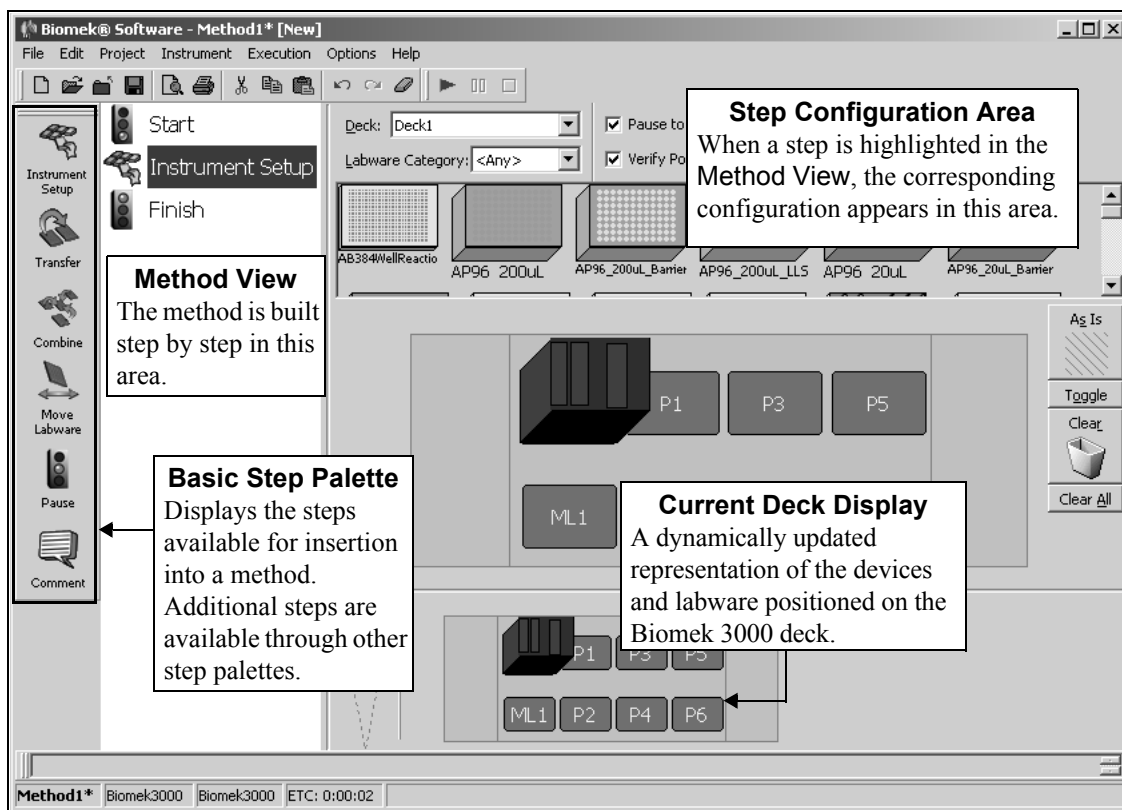

Figure 2-1. Biomek Software main editor for a Biomek 3000 instrument
1. Drag and drop an Instrument Setup into the Method View. A new method is created and assigned the default name Method1 [New] (Figure 2-1).
**Note:** Your deck layout may differ slightly from the deck shown in Figure 2-1, depending on how your Biomek 3000 instrument is physically set up.